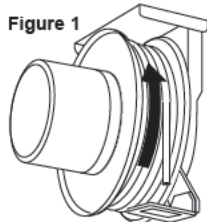

Figure 1
4. Remove cable stop. Rotate spool counter-clockwise (when viewed from slip ring side) until all cable is wound on reel...not extending through cable guide. See fig. 1.